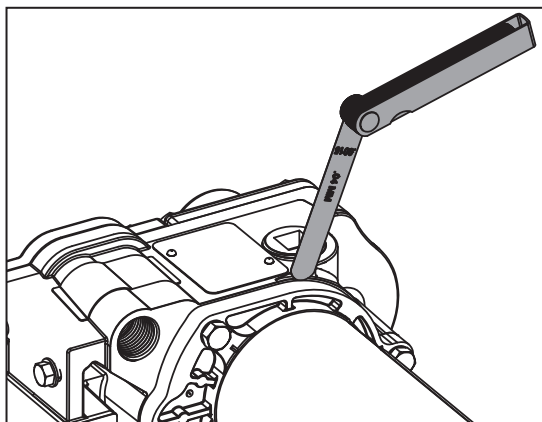

Figure 12
8. Tighten the motor to the pump housing. Check for proper installation by working a .0015 in. (.04 mm) feeler gauge around the motor flange (see Figure 12). The gauge should not fit between the flange and the housing.